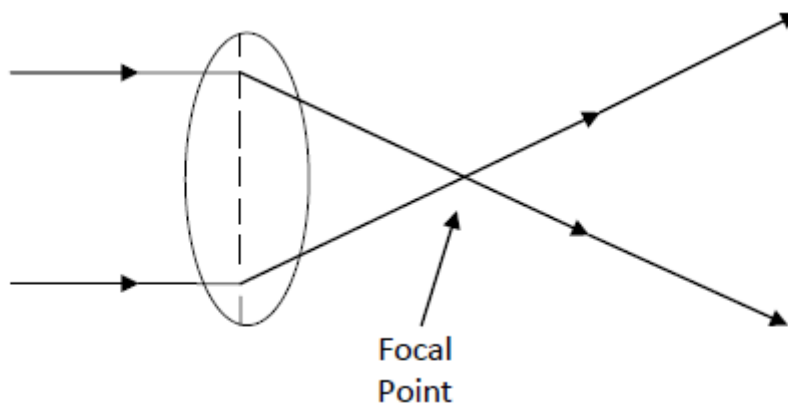

FIG. 2-6
- A. Converging lenses are thicker in the center than at the edges (FIG. 2-6). When light strikes a converging lens it is refracted to a point on the other side and then spreads out again. The intensity is increased at the point where the beam converges.